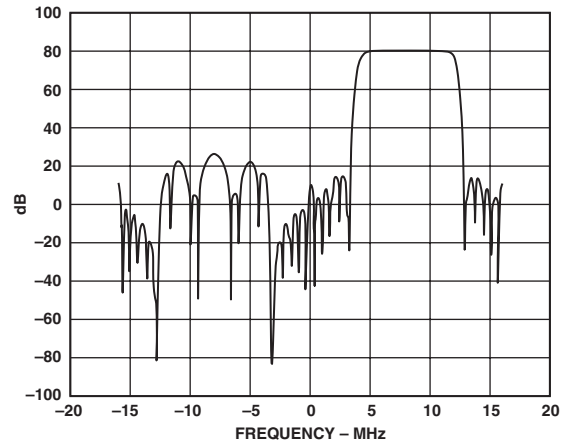

Figure 5. Tx Hilbert Filter, Keeping Positive Frequencies Spectral Plot
The Hilbert filter is available to provide a Hilbert transform of “real” input data at a low intermediate frequency (IF) between 12.5% to 38% of the input data rate. The Hilbert filter essentially transforms this “real,” single channel input data into a complex representation (i.e., I and Q components) that can be used as part of an image rejection architecture. The complex data can then be processed further using the on-chip digital complex modulators. The Hilbert filter requires 4× interpolation to be enabled and accepts data at a maximum 32 MSPS. Figure 5 shows a spectral plot of the Hilbert filter impulse response.